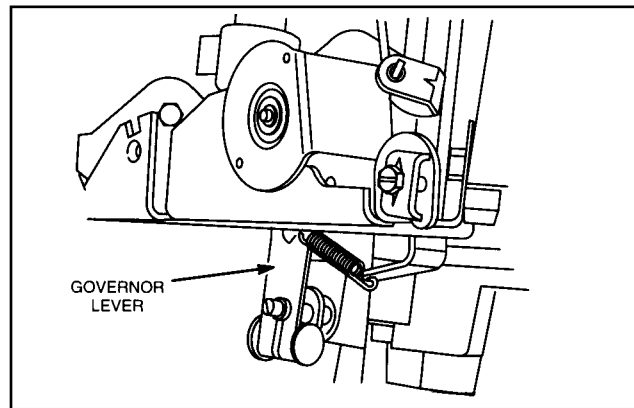

Fig. 17 - Install Governor Lever
4. Reassemble governor lever to governor shaft, Fig. 17. DO NOT tighten nut at this time.